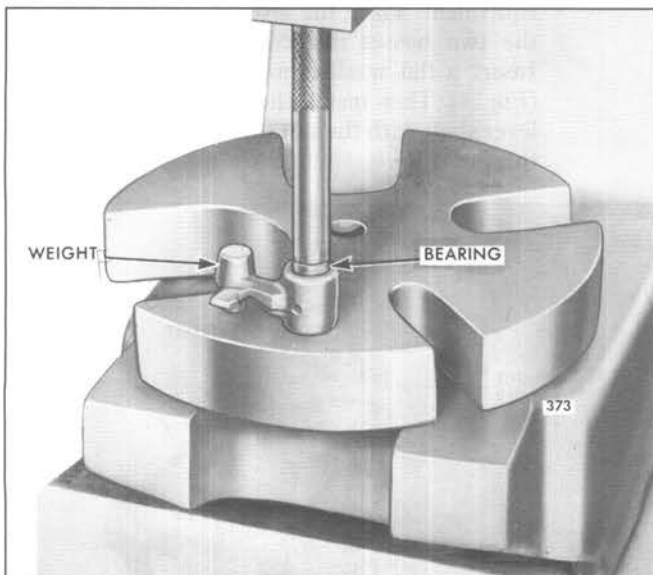

Fig. 20 – Installing Bearings in Governor Weight using Tool J 8985
- d. Insert the pilot end of installer J 8985 in the bearing and under the ram of the press as shown in Fig. 20. Then press the bearing straight in the weight until it is flush with the top of the weight. Reverse the weight on the press and install the second bearing in the same manner.